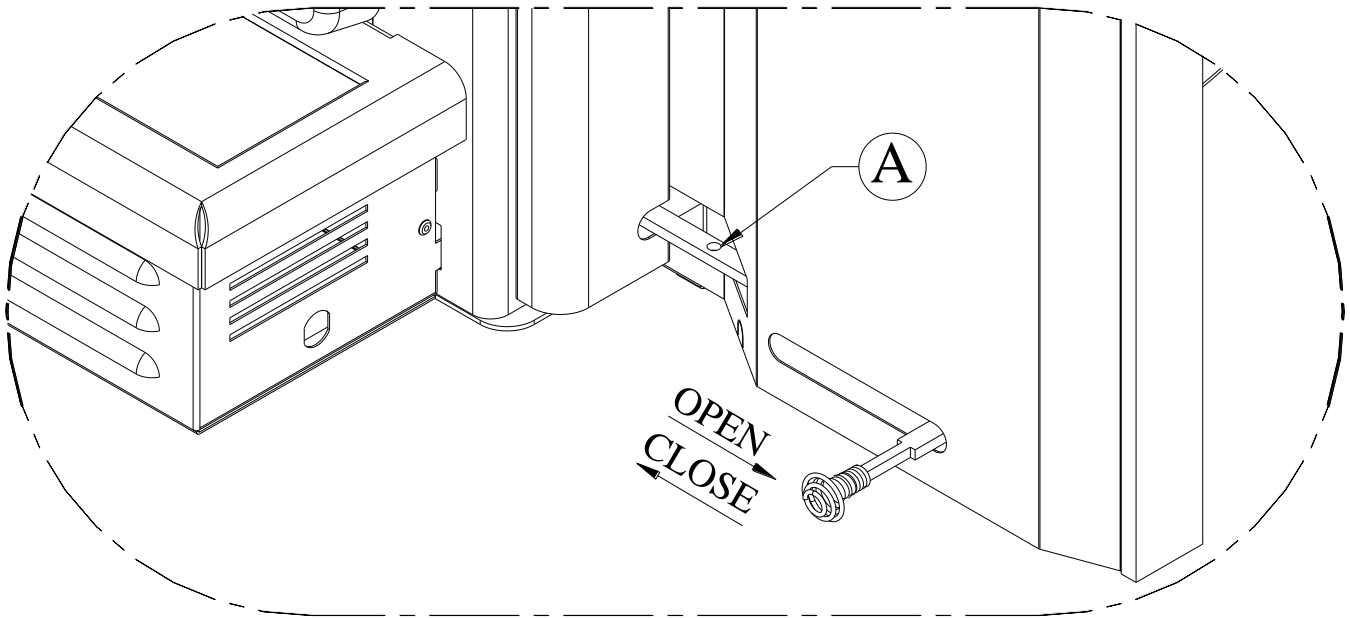

Figure 3.1
4. Open the draft control fully to the right (located on the right side of the faceplate, Figure 3.1)
If you are making a custom faceplate for your 1100 insert, you will need to block the low combustion setting by inserting a screw into the hole located on the air control rod as indicated by the letter A on figure 3.1.